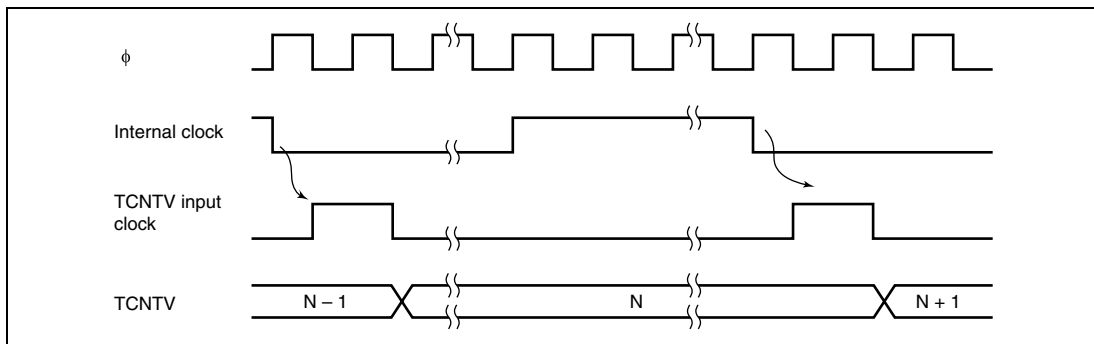
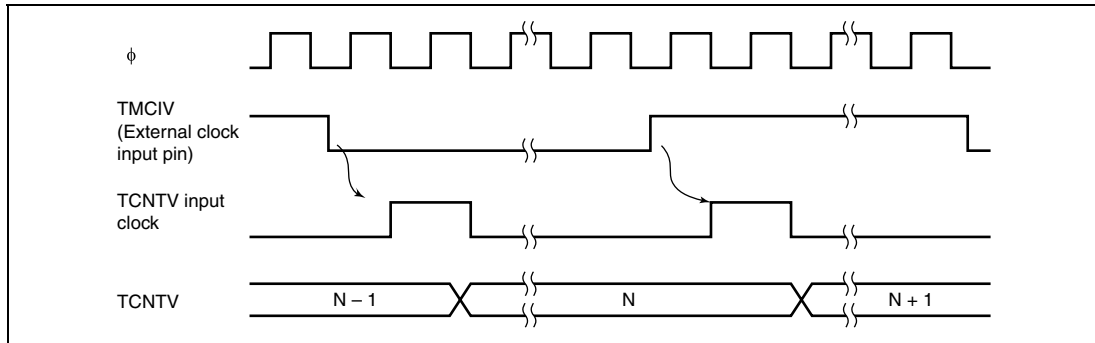

Figure 11.2 Increment Timing with Internal Clock
Figure 11.3 Increment Timing with External Clock
1. According to table 11.2, six internal/external clock signals output by prescaler S can be selected as the timer V operating clock signals. When the operating clock signal is selected, TCNTV starts counting-up. Figure 11.2 shows the count timing with an internal clock signal selected, and figure 11.3 shows the count timing with both edges of an external clock signal selected.